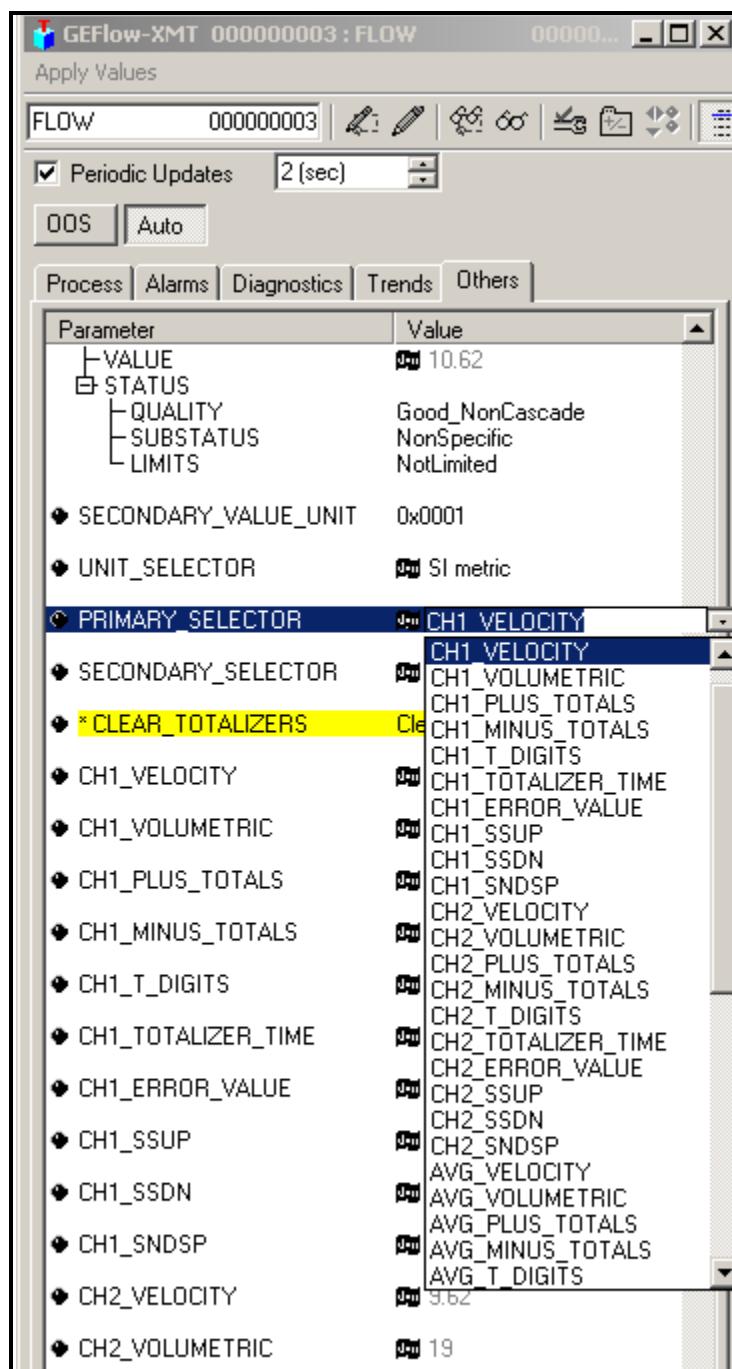

Figure D-2: Primary Selector Drop Down List
2. Select the **Others** tab and open the drop down list for the PRIMARY_SELECTOR and SECONDARY_SELECTOR (refer to Figure D-2 on page D-3).
3. Choose the unit from the list (see Figure D-2 on page D-3).